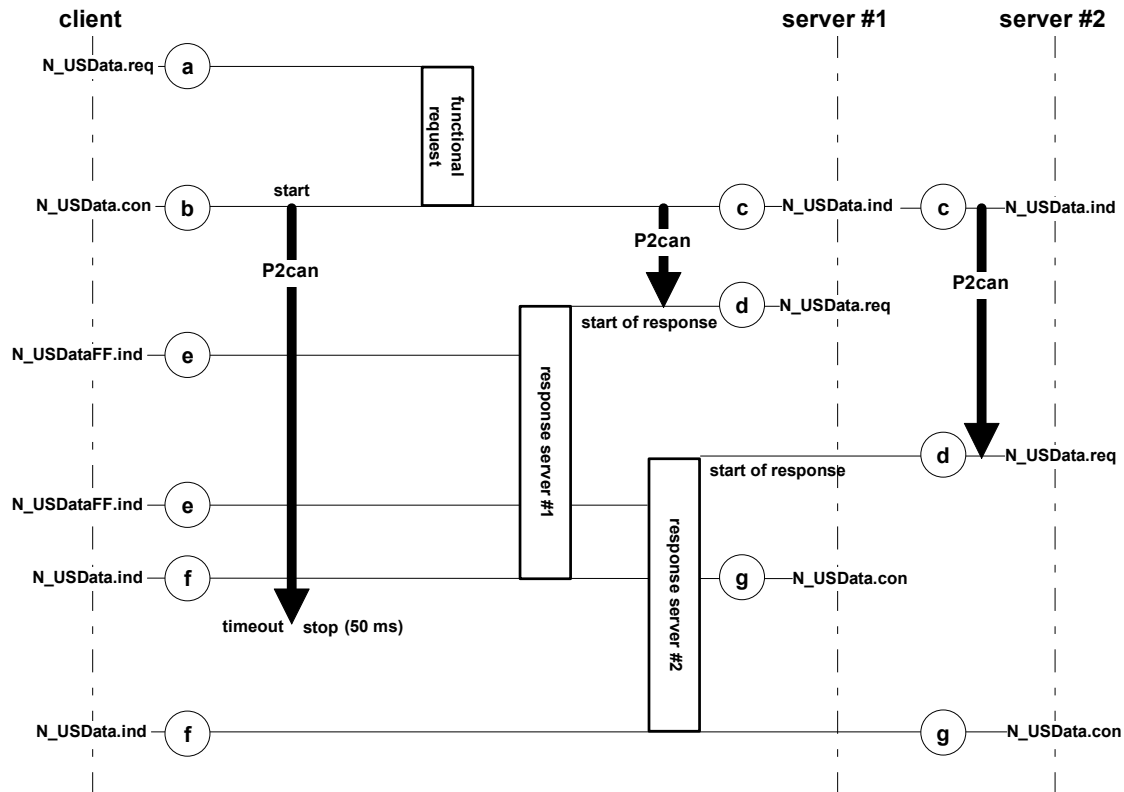

FIGURE 2 - FUNCTIONAL OBD COMMUNICATION: DEFAULT RESPONSE TIMING
Figure 2 graphically depicts the timing handling in the client and two (2) servers for a functionally addressed request message during the default session. A description follows the figure that references the points marked in Figure 2.
- b. The completion of the request message is indicated in the client via N\_USData.con. When receiving the N\_USData.con, the client starts its P2CAN timer, using the default reload value P2CAN. For simplicity, Figure 2 assumes that the client and the server are located on the same network.